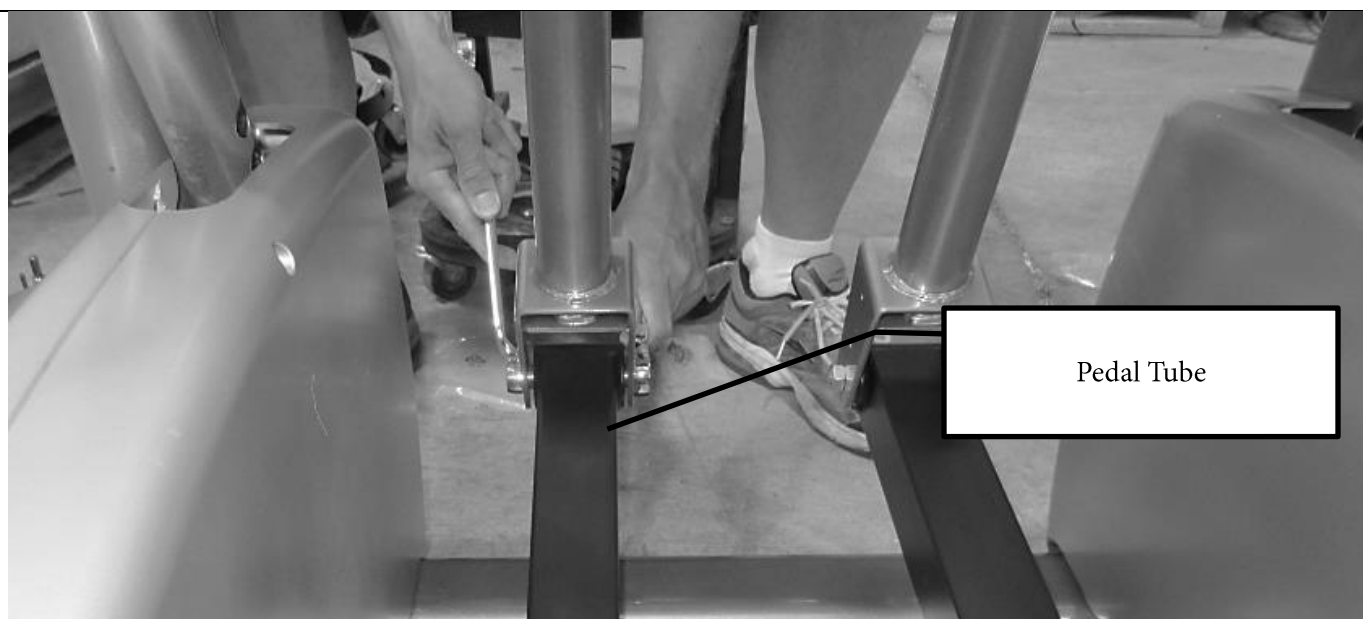

Figure 16
- a) Open Bag 5 and use 2 M10x80mm bolts and 2 M10 Nuts to attach Pedal Tubes. Make sure that pedal tubes are centered between the rollers of the Crankshaft before tightening the bolts. Figure 16